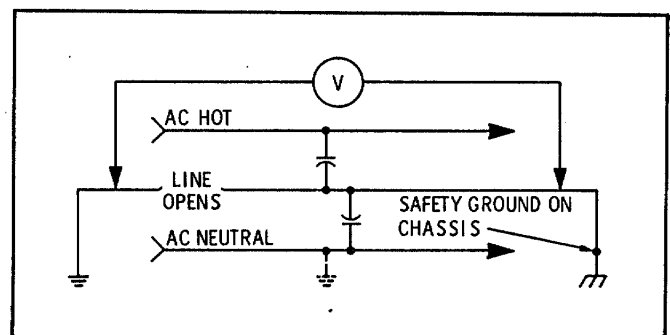

Figure 1-2. Circuit if Equipment
1-7. **WARNING.** Ensure that the Spectrum Analyzer and any device connected to it are both properly grounded to the same power line ground. An interrupted path from earth ground to an instrument chassis safety ground (an open third-wire ground lead in a cord; for example, see Figure 1-2 below) can develop a potential (V) equal to one half of the power line voltage. This may cause a shock hazard as well as damage to the instrument.